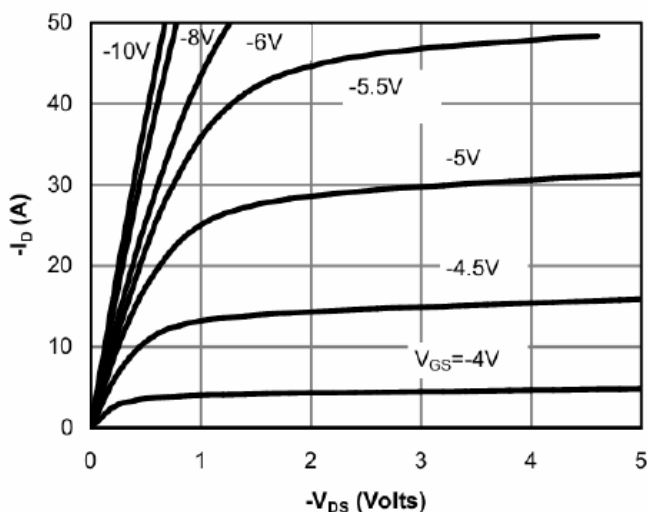

Fig 1: On-Region Characteristics
5. The static characteristics in Figures 1 to 6 are obtained using <300ms pulses, duty cycle 0.5% max.